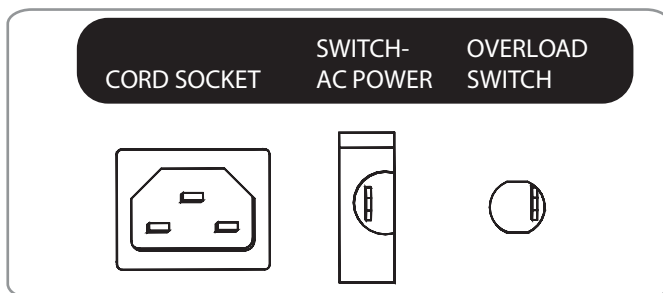

FIG. 1
- A. Slide the new left handlebar end cap (3) onto the left handlebar (4) and the right end cap (5) onto the right handlebar (6). (FIG. 1)